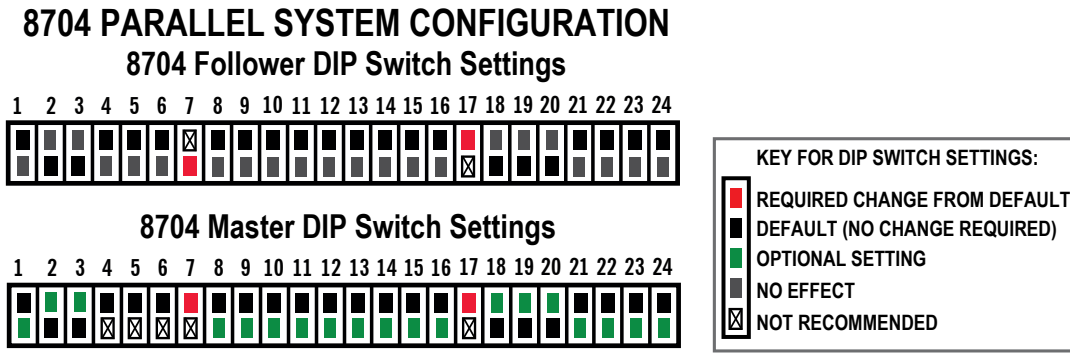

Figure 7.8 – Required DIP switch settings for parallel amplifiers
1. Refer to **Figure 7.8** to configure each amplifier's DIP switches for parallel operation. On the amplifier designated as Follower, **set DIP switch #7 in the DOWN (Follower) position**. On both amplifiers, **set DIP switch #17 in the UP (Electronic Gain Matching ON) position**. Note that other configuration settings controlled by DIP switches can also be selected before operation. In an 8704 multi-amp system, **all settings except for Control Configuration (SW#7) and Electronic Gain Matching**